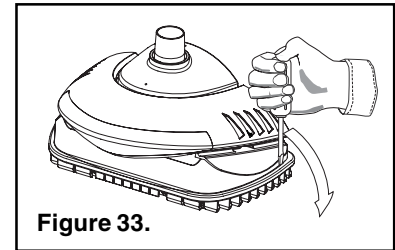

Figure 33.
1. With a screwdriver, carefully work the rubber vacuum pad down over the lip of the Outer Housing, (see Figure 33).